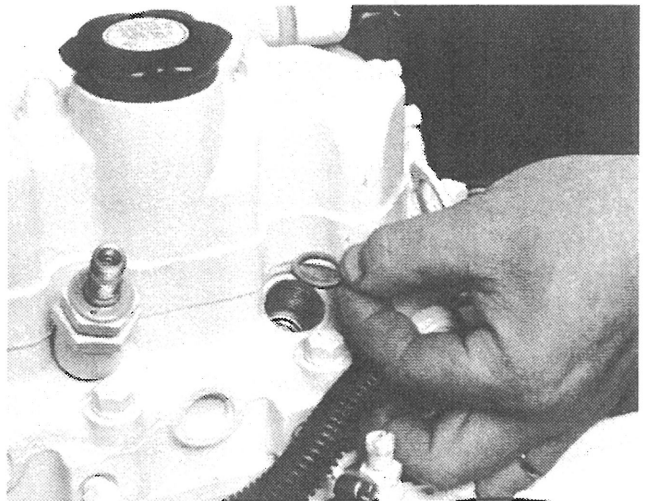

Figure 16. Remove and Replace Copper Sealing Washer
- a. Install a new copper sealing washer in each injector hole (Figure 16.)